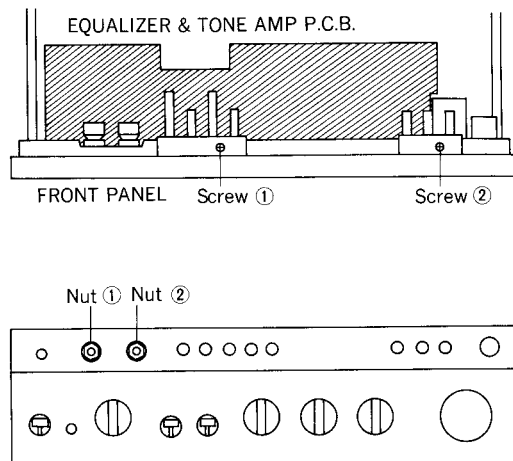

Fig. 2
- Remove the screws ① and ② at the upper surface of the front panel, as shown in fig. 2.
- Remove the nuts ① and ②, taking care not to scratch the front panel, with a thin cloth or the like applied to the tip of a 8mm nut driver, and then remove the equalizer and tone amplifier printed circuit board from the chassis.